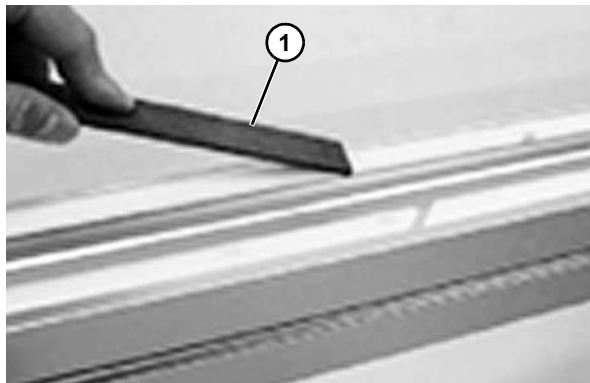

Figure 45
3. After the cut, make sure the slide rail surface is smooth and the nylon screws do not protrude over the slide rail surface. Use a file (**Figure 45, item 1**) to file off the protruding edge if uneven surface is found.